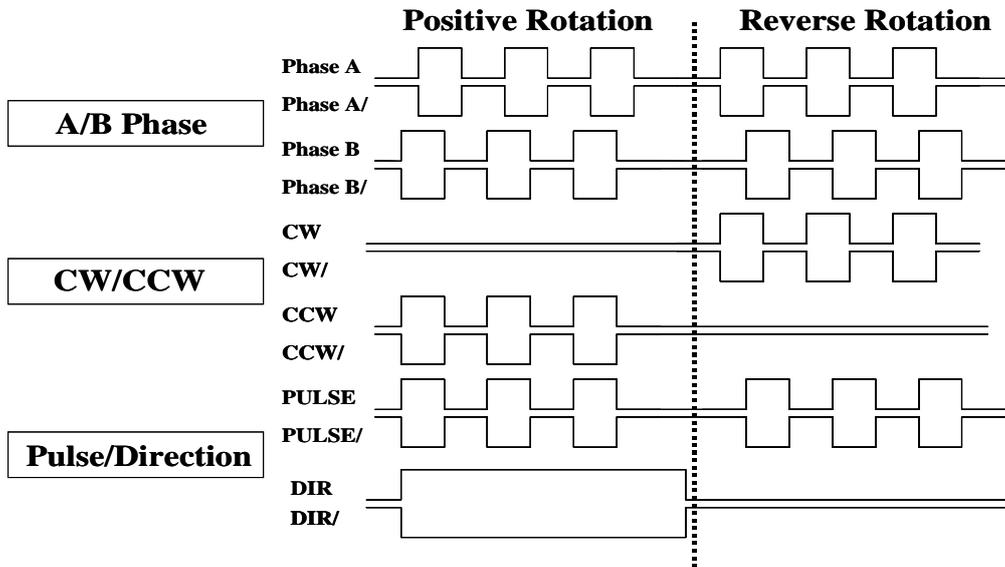

Fig. 1-12
(V) Pulse format transmitted from the IMP-2 as shown in Fig. 1-12 below.
(III) Pulse Output Format (Refer to Fig. 1-10 and Fig. 1-12)